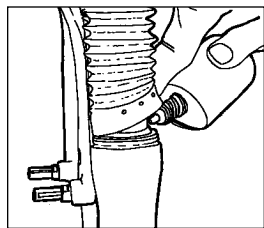

Fig. 4
- 1. Wipe exterior surfaces, Resi-wiper seal area and upper tube clean. Apply 2-3 drops of Teflon-fortified oil to the upper tubes at the Resi-wiper (see Fig. 4).